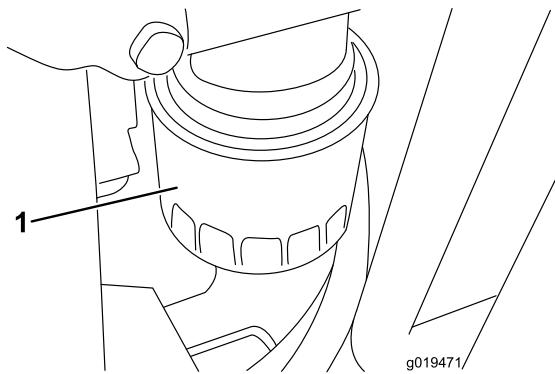

Figure 58
2. Remove oil filter (Figure 58). Apply a light coat of clean oil to the new filter seal before screwing it on. Do not over-tighten.